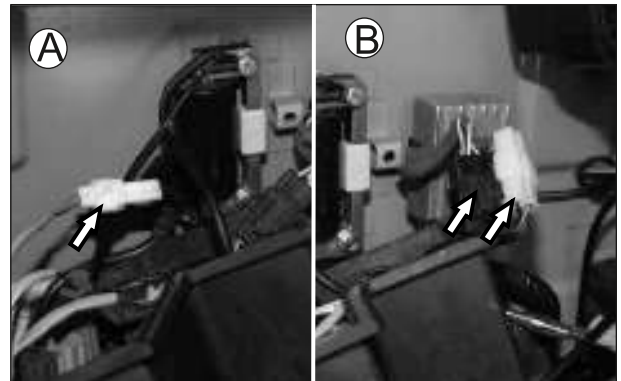

Fig. 5.87
- Disconnect output wire from TCI coupler to ignition coil.(A) (Fig. 5.87)
- Disconnect RR unit coupler from wiring harness.(B) (Fig. 5.87)